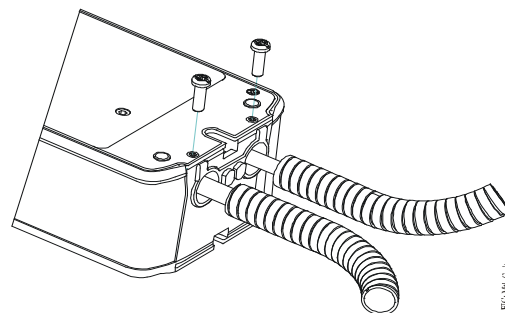

Figure 21: Adding Flexible Metal Conduit
2. Push the conduit into the holes in the actuator and secure it with the supplied 10-32 x 9/16 in. screws, as illustrated in Figure 21. The product label marks the position of holes for the screws. Drive the screws through the product label in the marked positions. Drive the screwhead flush with the plate to secure the conduit.